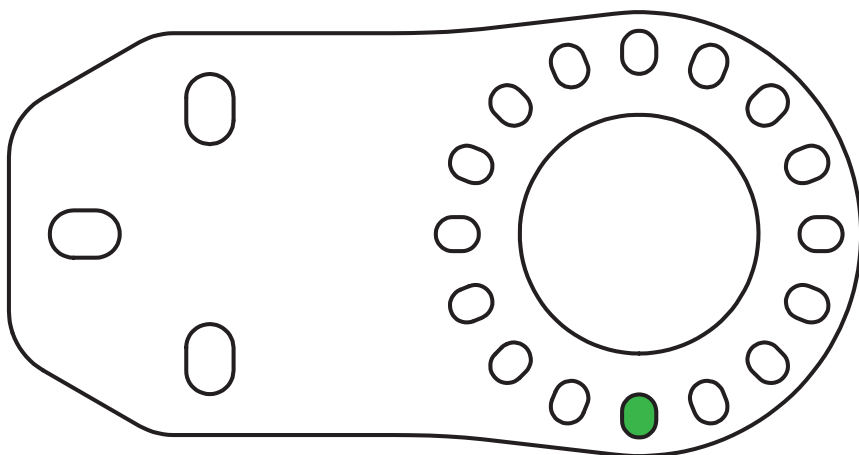

Figure 5 - Correct Bracket Hole for Pin on Top of Catch Can
5. Position the pin into the bracket hole shown in Figure 5.